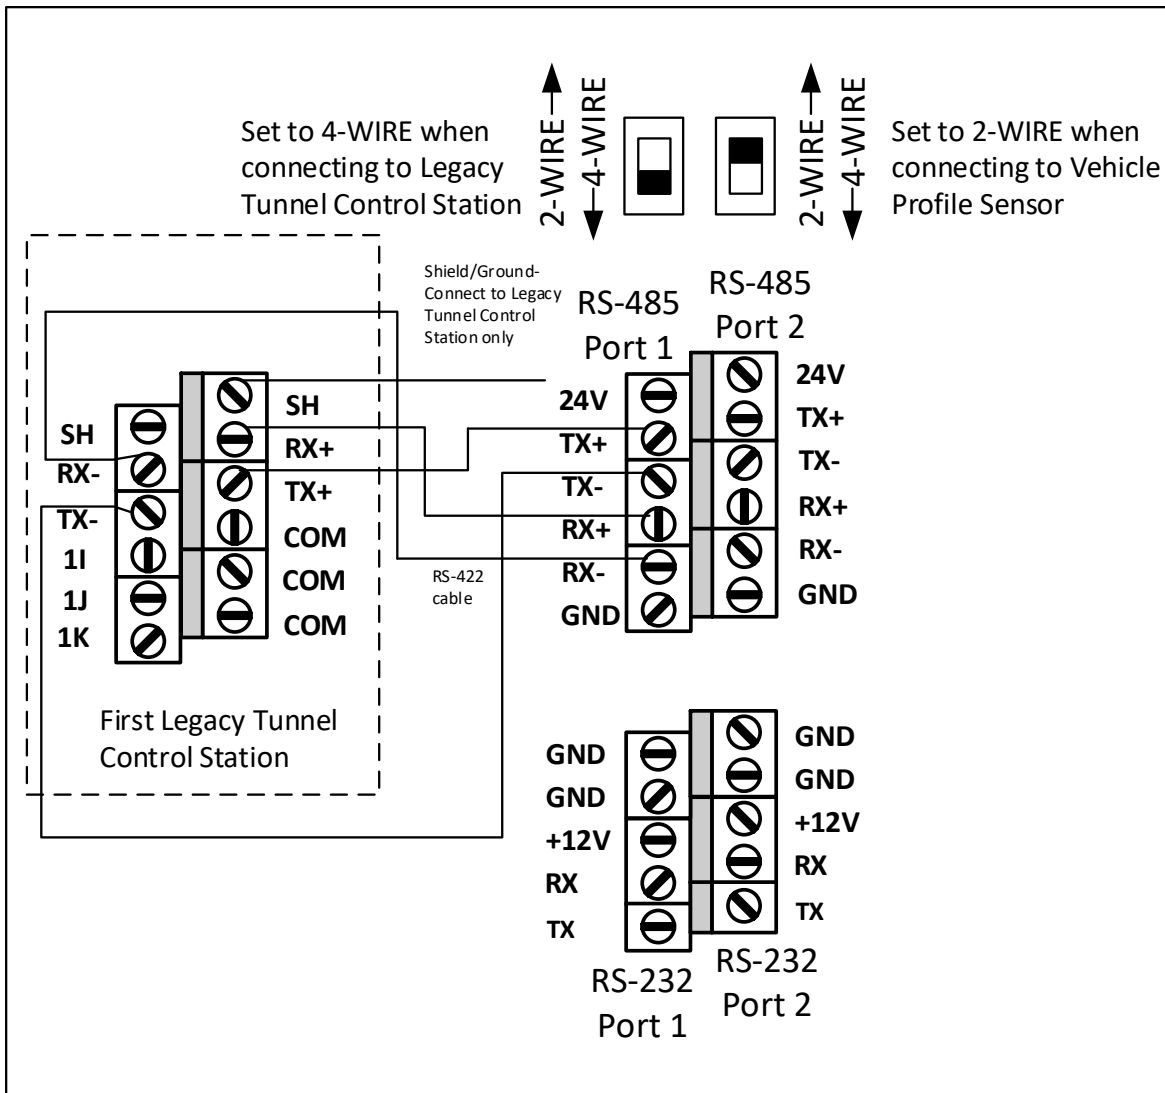

Figure 19: TCS2 to Legacy TCS Communication Wiring
- See Figure 19: TCS2 to Legacy TCS Communication Wiring.